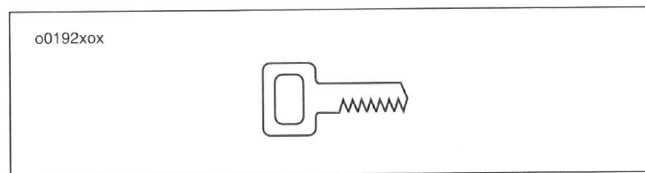

Figure S-2. Security Status Lamp
- **Security status lamp:** See Figure S-2. A lamp within the speedometer face tells the rider if the system is armed or disarmed.